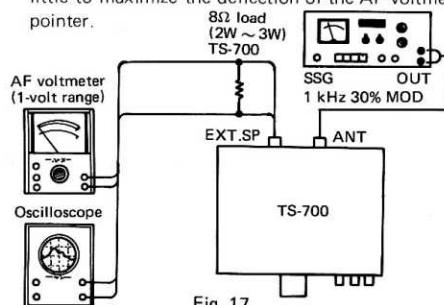

Fig. 17
Instruments are to be connected as shown in Fig. 17. Have controls set as follows:
- 2) Referring to Fig. 17, feed the SSG output of 145 MHz, not modulated, at 30 dB into the transceiver set for FM mode reception. The input level should be such that the pointer of "S" meter will swing to and stay at the middle position on the scale.